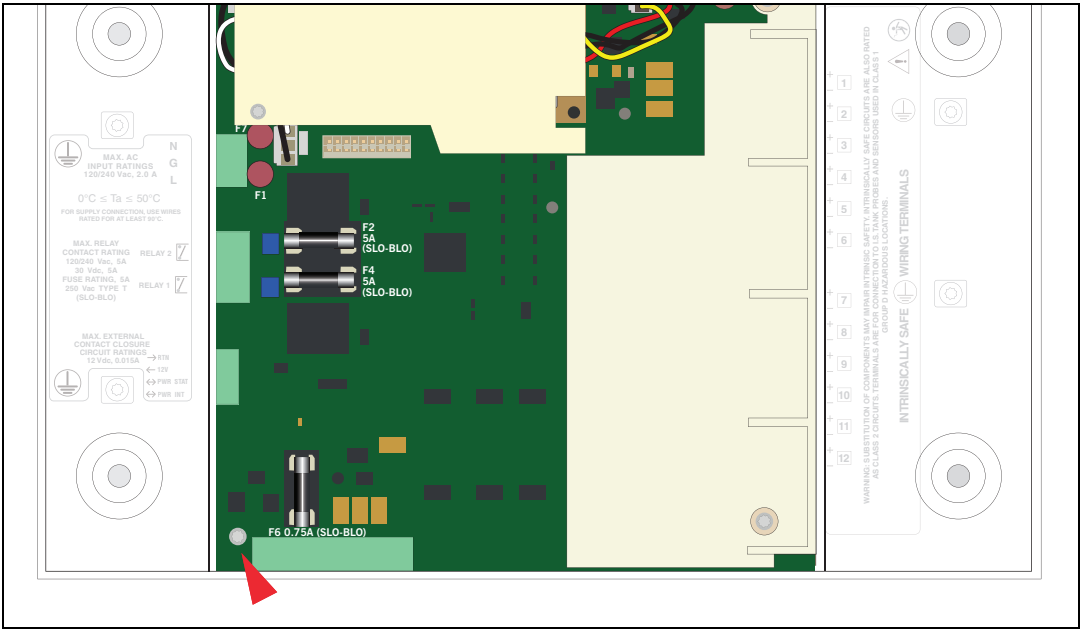

Figure 8. Remove Lower Left Corner USIOM Board T15 Screw
5. Remove the T15 #6 x 0.375 screw from the lower left corner of the USIOM board (see Figure 8) and set it aside.